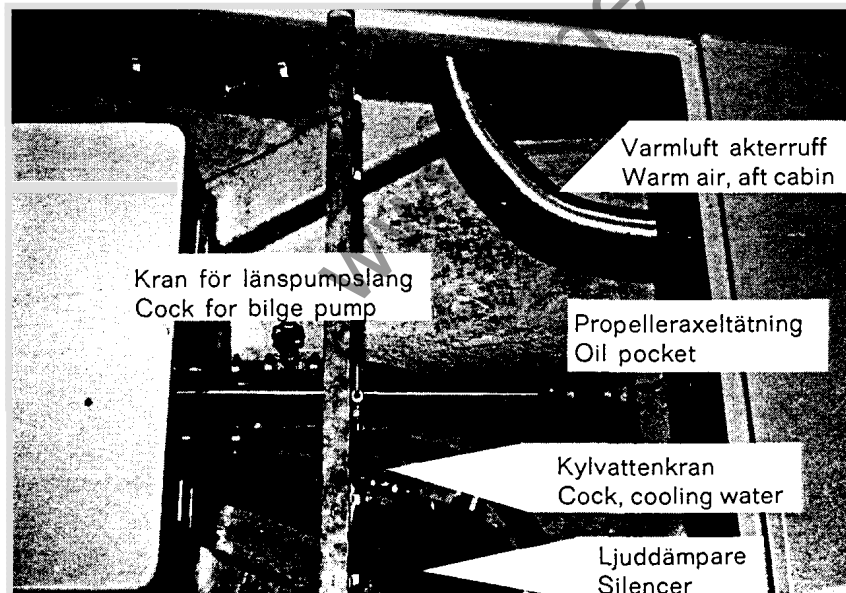

Fig. 16. Propeller shaft with oil pocket, cooling water seacock and cock for bilge pump.
5. Check that the cooling water seacock is open (fig. 16).
9. Unscrew the plug on the propeller shaft oil pocket (fig. 16 & 18) and check that it is almost filled with grease. Fill with more grease if necessary. A soft outboard grease is most suitable. The grease is pressed directly from the tube until the oil pocket is almost full. Do not use high pressure. A grease gun must never be used as this may press out the forward sealing ring. Do not overfill the oil pocket as even screwing down the plug may exert enough pressure to push out the sealing ring.
that the automatic bilge pump intake is shut off when not needed (fig. 16). The back vent on the pump contains a ball vent which could, if held partly open by dirt particles, cause flooding of the boat. Shutting off the valve also prevents intake noise. Note: When closing this valve, be certain you are not closing the valve for the engine cooling water;
1. After stopping the engine close the seacock on the cooling water intake, fig. 16.